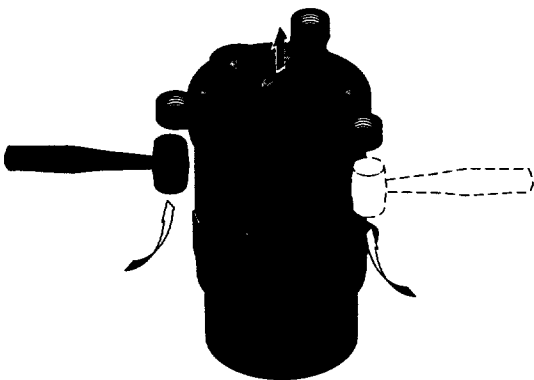

Figure 19
6. Turn the pump upside down on the bench and block it. Remove the four cap screws from the base. With a mallet, tap upward on the base to loosen it. Lift the base off of the intermediate volute (see Figure 19).